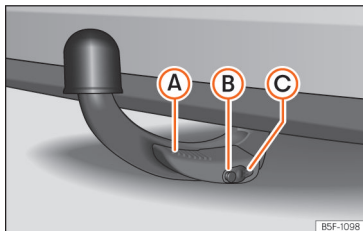

Fig. 270 Detachable ball properly attached.
- Lever (A) » Fig. 270 is fully raised.
- The release bolt (B) » Fig. 270 is sticking fully out (the red and green part is visible).
- Cover (C) » Fig. 270 is placed over the lock.